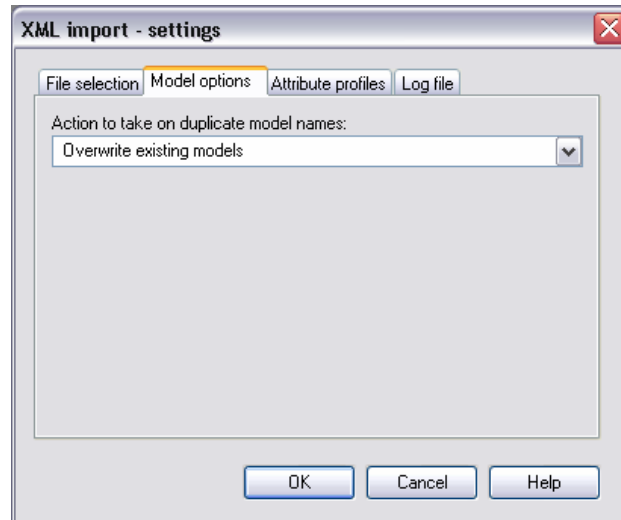
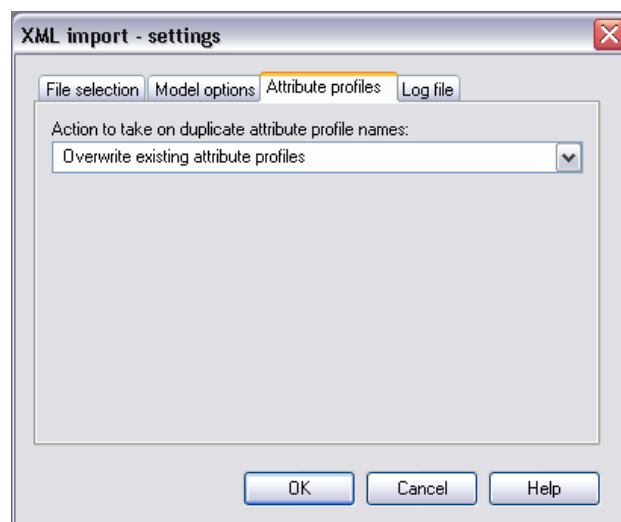

Figure 420: XML import settings - model options
Figure 421: XML import settings - attribute profile options
**Hint:** Only the name of the models or of the attribute profiles to be imported is compared to the models or attribute profiles stored in the ADOxx database, not their contents. Therefore, an imported model or attribute profile may have the same content as one stored in the ADOxx database, but a different name. This means it is very important to select the appropriate options as listed in the window **"XML Import - Settings"** (see fig. 420) for importing models (see chap. 6.3.1, p. 474) with identical names or in the window **"ADL Import - Settings"** (see fig. 421) for importing attribute profiles (see chap. 6.3.1, p. 474) with identical names.